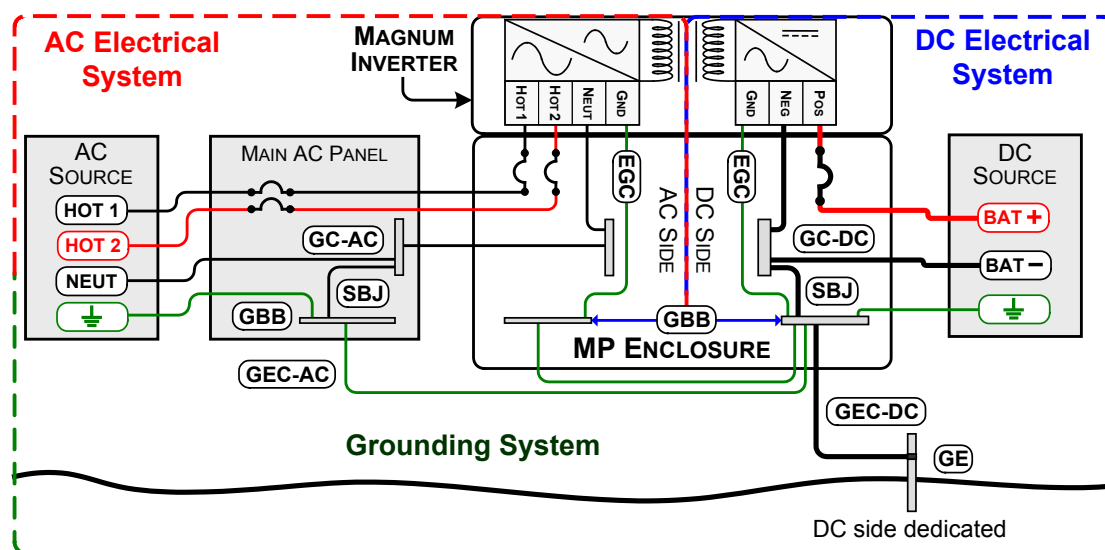

Figure 3-31, Single Connection to DC Ground Rod (Method 1)
1. Single Connection to Ground (Method 1): The AC Grounding Electrode Conductor (GEC-AC) is bonded to the DC ground point and the DC Grounding Electrode Conductor (GEC-DC) is the *only connection* to the grounding electrode, which must be a rod, pipe, or plate electrode (see Figure 3-31).